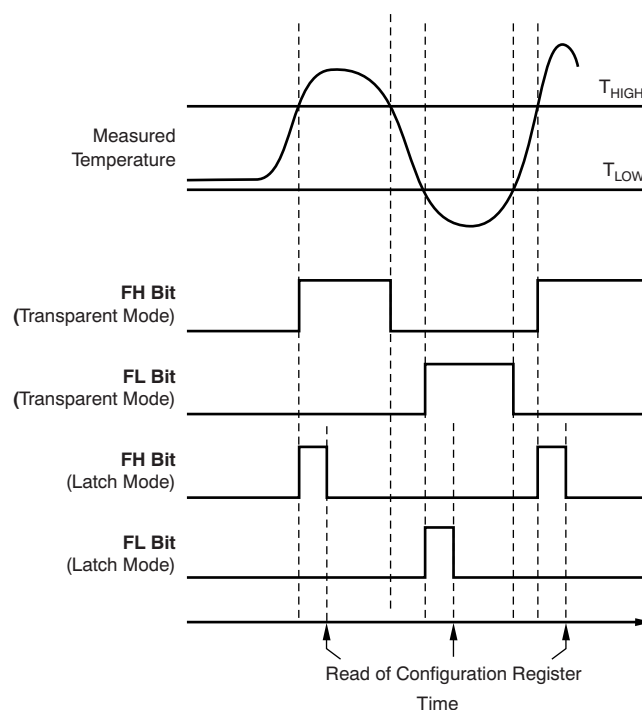

Figure 11. Temperature Flag Functional Diagram
The TMP104 contains a watchdog function that monitors device temperature and compares the result to the values stored in the temperature limit registers (T_{HIGH} and T_{LOW}) in order to determine if the device temperature is within these set limits. If the temperature of the TMP104 becomes greater than the value in the T_{HIGH} register, then the flag-high bit (FH) in the Configuration Register is set to '1'. If the temperature falls below value in the T_{LOW} register, then the flag-low bit (FL) is set to '1'. If both flag bits remain '0', then the temperature is within the temperature *window* set by the temperature limit registers, as shown in Figure 11.
The T_{HIGH} and T_{LOW} registers are used to store the temperature limit thresholds for the TMP104 watchdog function. At the end of each temperature measurement, the TMP104 compares the temperature results to each of these limits. If the temperature result is greater than the T_{HIGH} limit, then the FH bit in the Configuration Register is set to '1'. If the temperature result is less than the T_{LOW} limit, then the FL bit in the Configuration Register is set to '1'; see Figure 11.